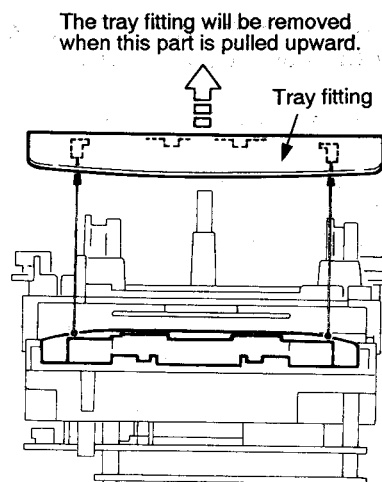

Fig. 7-9
■ How to Remove the CD Tray (Refer to Figs. 7-9~7-13)
5. Remove the two screws (12) playing a role of CD tray stopper, and pull out the CD tray.
6. After removing the four screws (13) retaining the CD clamper base, dismount the base from the loading base while raising it from the rear side.